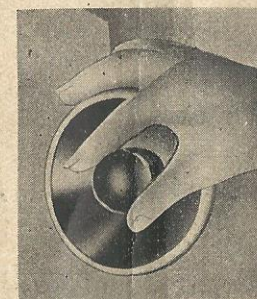

Fig. 7
Loosen the balance wheel by turning the stop-motion knob toward you (Fig. 7) and place a spool of thread on the spool pin (A). Pass the end of the thread through the notch on front upper left corner of machine (B), and through the disk at the bottom right of the machine from below (C). Then wind the bobbin seven or eight times with the free end of the thread, and put the threaded bobbin on the spindle of the bobbin winder (D).
(See Fig. 7)
To loosen the wheel, hold it tightly with the left hand, and, with the right hand, turn the stop-motion knob over toward you. (See arrow in Fig. 7).